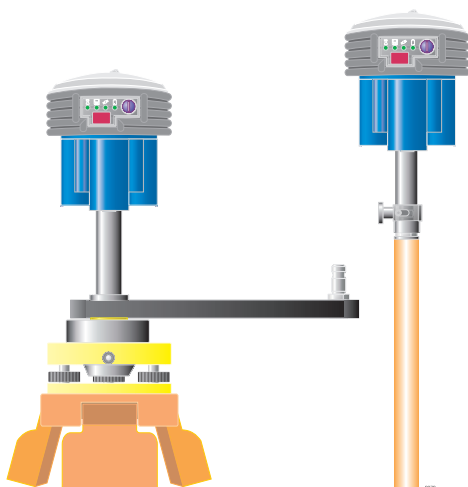

Figure 3.7: Rover From Initialization Bar to Range Pole
12. Being careful to maintain satellite lock, transfer the Rover Locus with the quick release extension to the kinematic range pole (Figure 3.7) and measure and record the antenna height of the rover setup. Press the **EDIT** key of the Kinematic Site Logger screen.